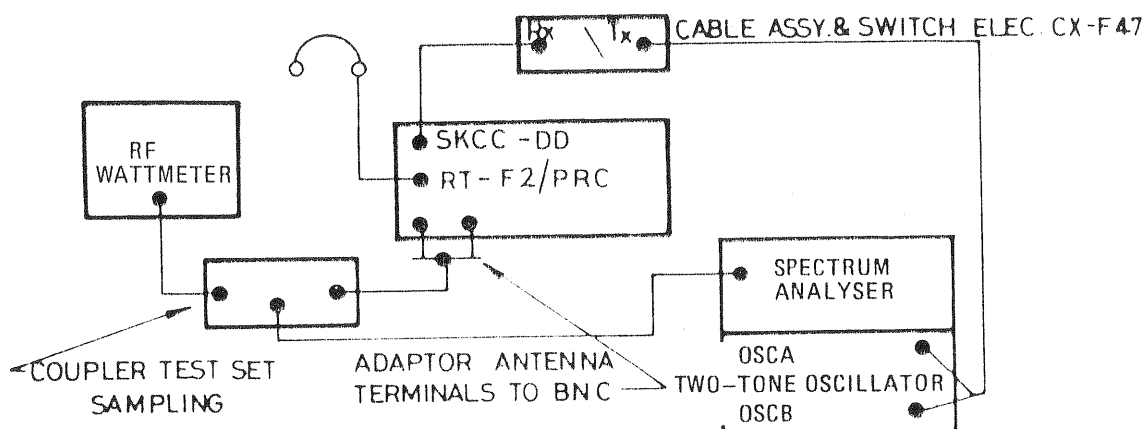

FIG 10 - TRANSMITTER MODULATION RESPONSE - TEST SET-UP
- a. Connect equipment as shown in Fig 10, with Switch Elec CX-F47 in the RX position.
- b. Set the oscillator (A) for 1000 Hz at 2 mV and audio oscillator (B) for 500 Hz at 2 mV.
- f. Repeat the measurement detailed in sub-paragraph b for 300, 3000, and 4600 Hz from oscillator (B) at 2 mV whilst still maintaining the 1 kHz reference tone applied from oscillator (A). Compare the output response levels with that listed in paragraph 49.
- a. Connect the equipment as shown in Fig 10 (Transmitter Modulation Response Test).
- a. Set up equipment as shown in Fig 10, with Switch Elec CX-F47 in the Rx position.
- a. Remove the R/T unit from its case. Set up equipment as shown in Fig 10 (Transmitter Modulation Response).